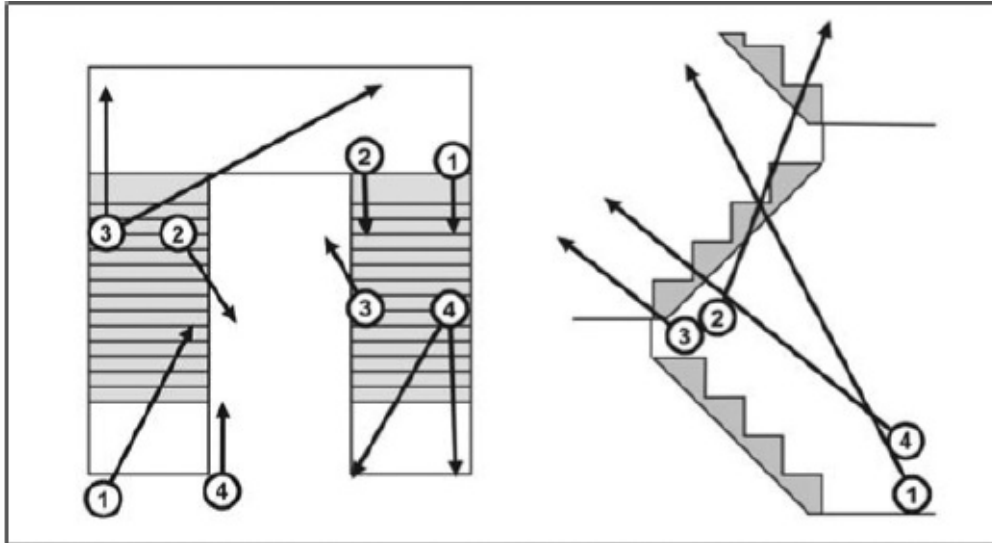

Figure 4-16. Open stairwell
b. Open Stairwell. This is a gap between flights of stairs that allows a person to look up and down between the flights. Figure 4-16 shows an open stairwell.